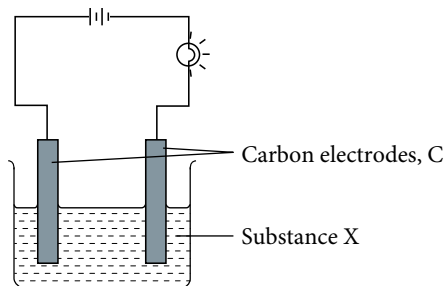
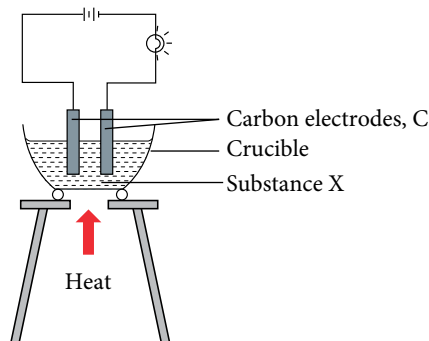

Figure 1.22
Figure 1.23
- (a) Solid copper(II) chloride, CuCl_2
3. By taking into consideration the safety factors and properties of substance X, you can use the set-up of apparatus in Figure 1.22 or Figure 1.23 to determine the electrical conductivity of substance X.